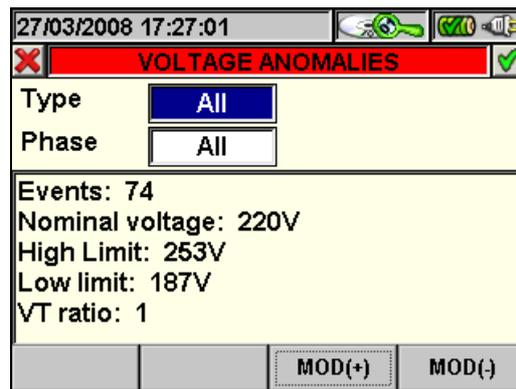

Fig. 161: Voltage Anomalies
- The **F2** key (or the **PARAM** item on the display) accesses the page showing the settings for voltage anomalies (Fig. 161).